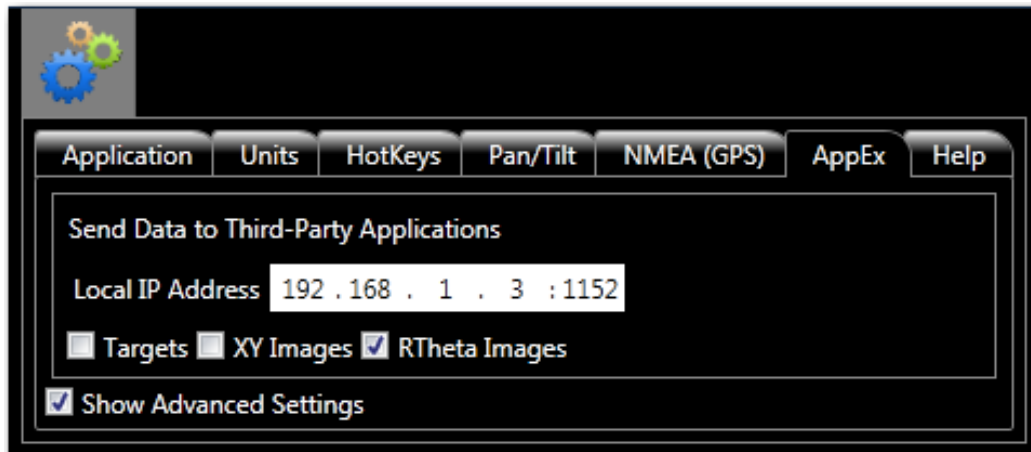

Figure 30. ProViewer Data Streaming Configuration
2. Configure ProViewer for streaming data to SAMM by clicking on the gears icon, clicking on the Data Streaming tab, and clicking the checkbox next to **RTheta Images** (match Figure 30). If you are running SAMM on a different computer than ProViewer, enter the IP address in the field. Otherwise, enter the local IP address (192.168.1.3 if using the IP address suggested in the ProViewer manual). Click **Show Advanced Settings** if the IP address is unavailable.